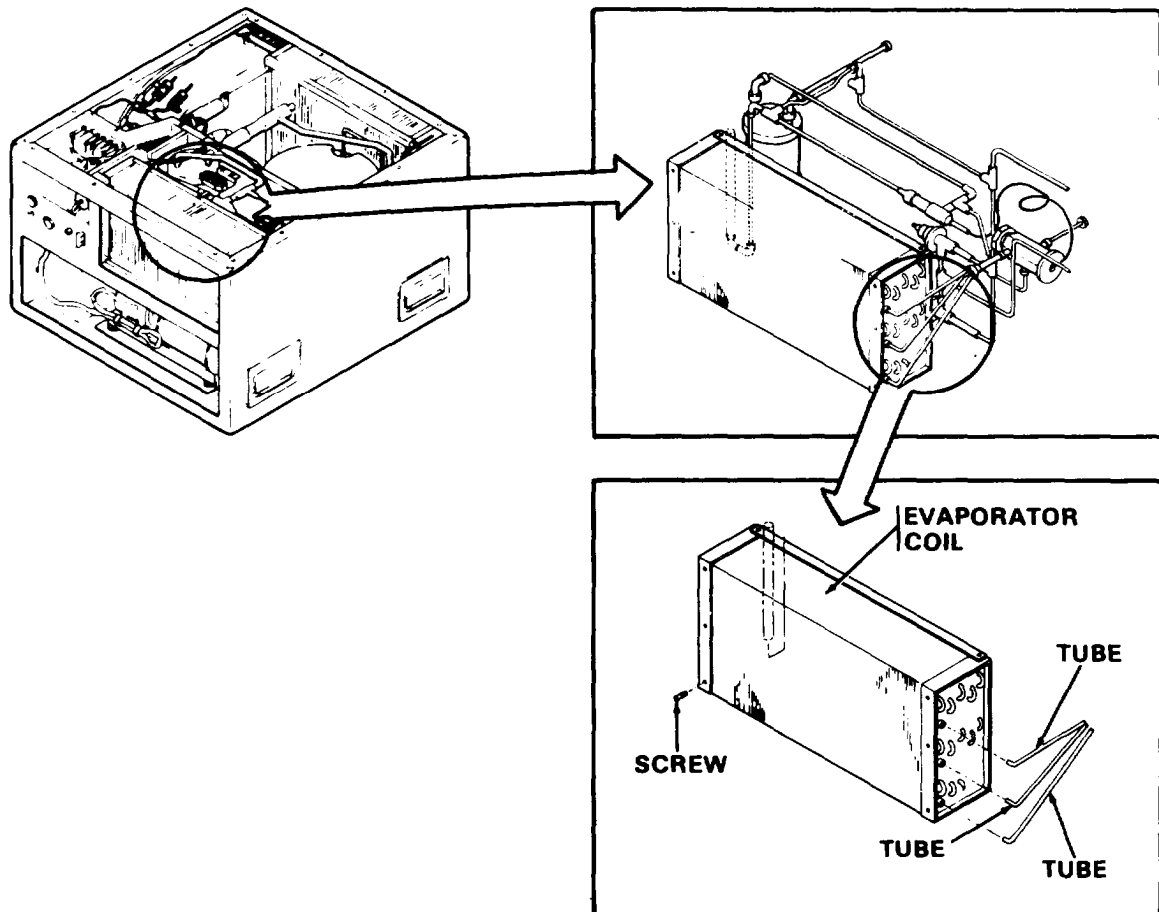

Figure 5-12. Evaporator Coil and Mist Eliminator Holder
- (4) Refer to para 4-33 and remove heating elements.
- (5) Refer to figure 5-12 and remove support plate that holds coil to housing.
(6) Refer to figure 5-12 and disconnect tubing from evaporator coil.
(7) Remove six screws, washers, and lock washers that hold evaporator coil and mist eliminator holder to air conditioner. Remove holders and coil.
(1) Install coil and mist eliminator holder in air conditioner and secure to brackets with six screws, washers, and lockwashers attach both the coil and mist eliminator holder; the lower two hold the coil only.
(2) Refer to figure 5-12 and install coil support plate.
(3) Connect tubing to coil. Leak test as described in paragraph 6-3.
(4) Refer to paragraph 4-19 and install evaporator air outlet louver.
(5) Refer to paragraph 4-33 and install heating elements.